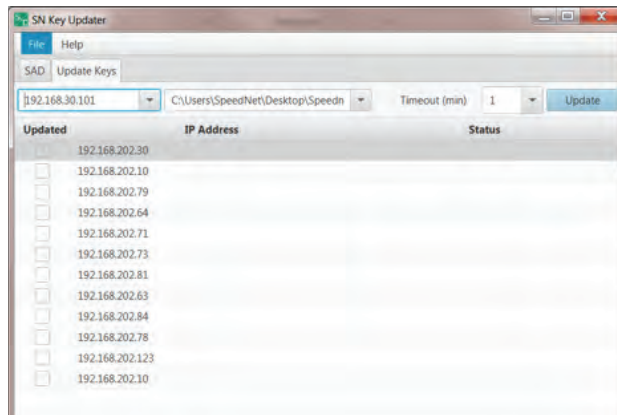

Fig 58. Key Updater IP address listing window.
STEP 39. Click **Update** button. Choose LAN interface of Head End Radio. See Figure 58.